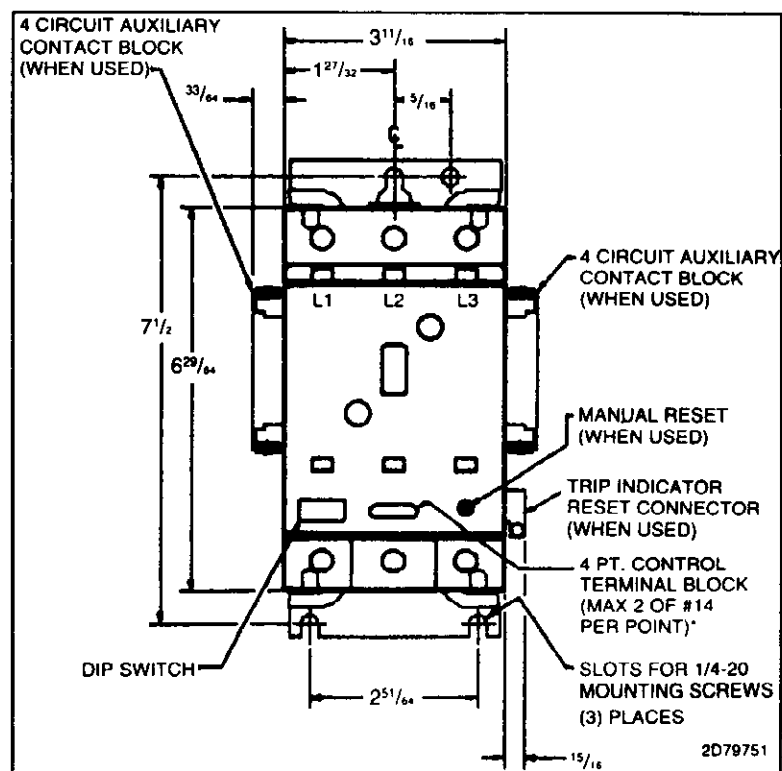

Fig. 2 Size 3 and Size 4 Mounting Dimensions (in inches)
1. Attach the contactor or starter to the mounting surface with $\frac{1}{4}$ inch screws. See Figure 2.